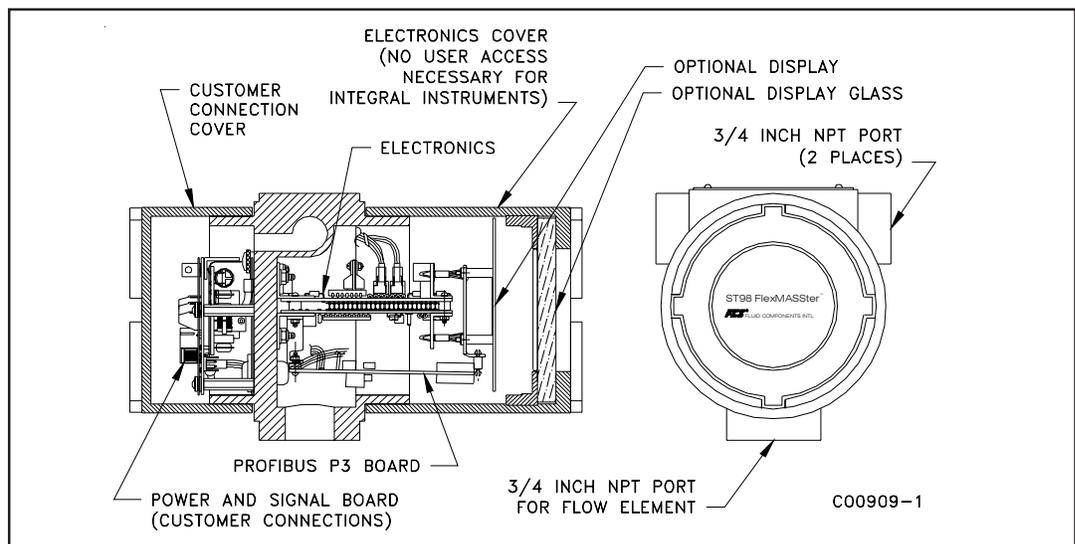
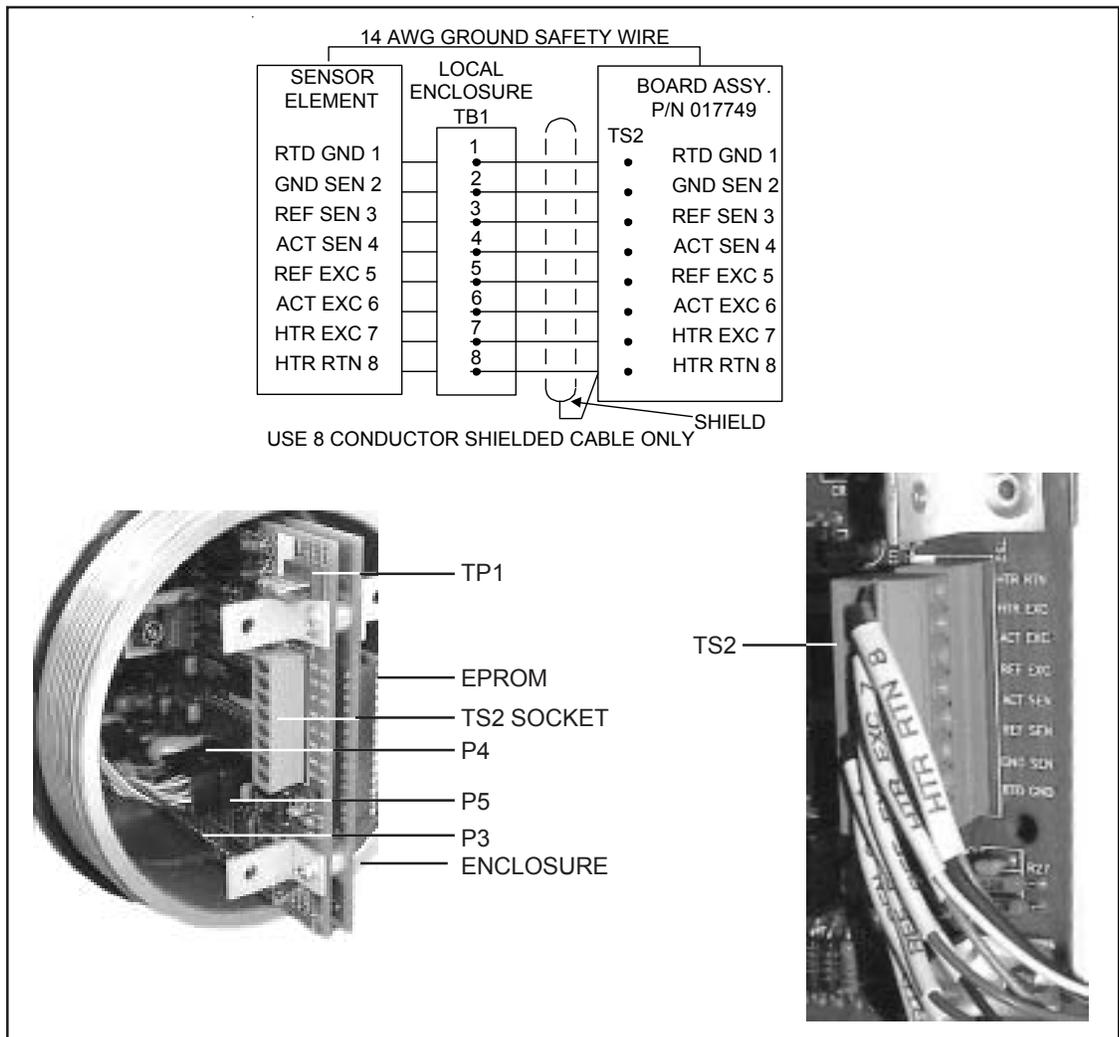
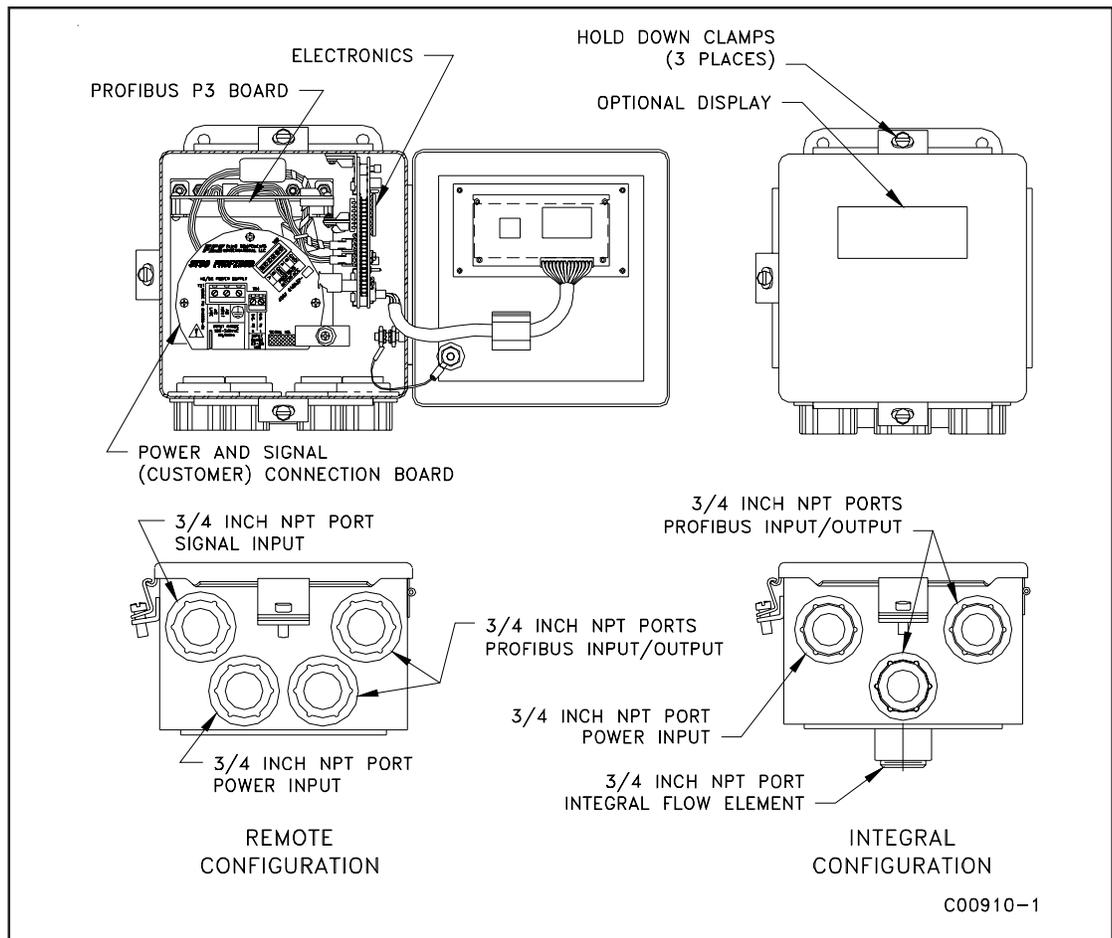

Figure 5. Circuit Board Placement
Figure 7. Remote Wiring Diagram
Figure 8. Optional Carbon Steel Enclosure
1. Remove the customer connection cover from the instrument by loosening the Allen head screw at the base of the cover. Unscrew the cover shown in Figure 5.
9. For remote instruments only: The flow element wires should be routed through the 3/4 inch NPT port for the flow element as shown in Figure 5. Connect the flow element wires to TS2 on the electronics assembly according to Figure 7. Connect the cable shield to HTR RTN. Leave the other end of the shield floating. A 14 AWG (1.85 mm) ground wire should also be routed between the enclosures (wire terminals are supplied in the kit).
NOTE: Connecting the shield in any other way will decrease the accuracy of the instrument. See Figure 7 for the wiring diagram.
1. To wire the instrument loosen 3 cover hold down screws and open the cover. See Figure 8.
8. For remote instruments only, (the flow element is in a separate enclosure from the electronics): The flow element wires should be routed through the 3/4 inch NPT port for the flow element as shown in Figure 8. Connect the flow element wires to TS2 on the electronics assembly according to Figure 7. Connect the cable shield to HTR RTN. Leave the other end of the shield floating.